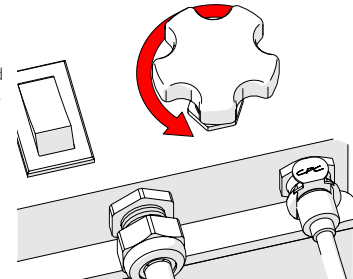

Fig. 4 - Control couplant with flow control valve
- Open the flow control valve (*rotate counter-clockwise*) until the desired flow is achieved (Fig. 4).